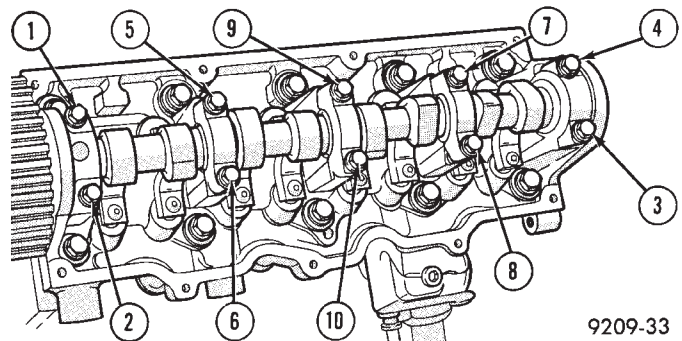

Fig. 7 Camshaft Cap Removal Sequence
- (3) Loosen camshaft bearing cap screws several revolutions (Fig. 7).
- (4) Jar camshaft at rear of cam to loosen (break free) the bearing caps. **Use a soft faced mallet.**